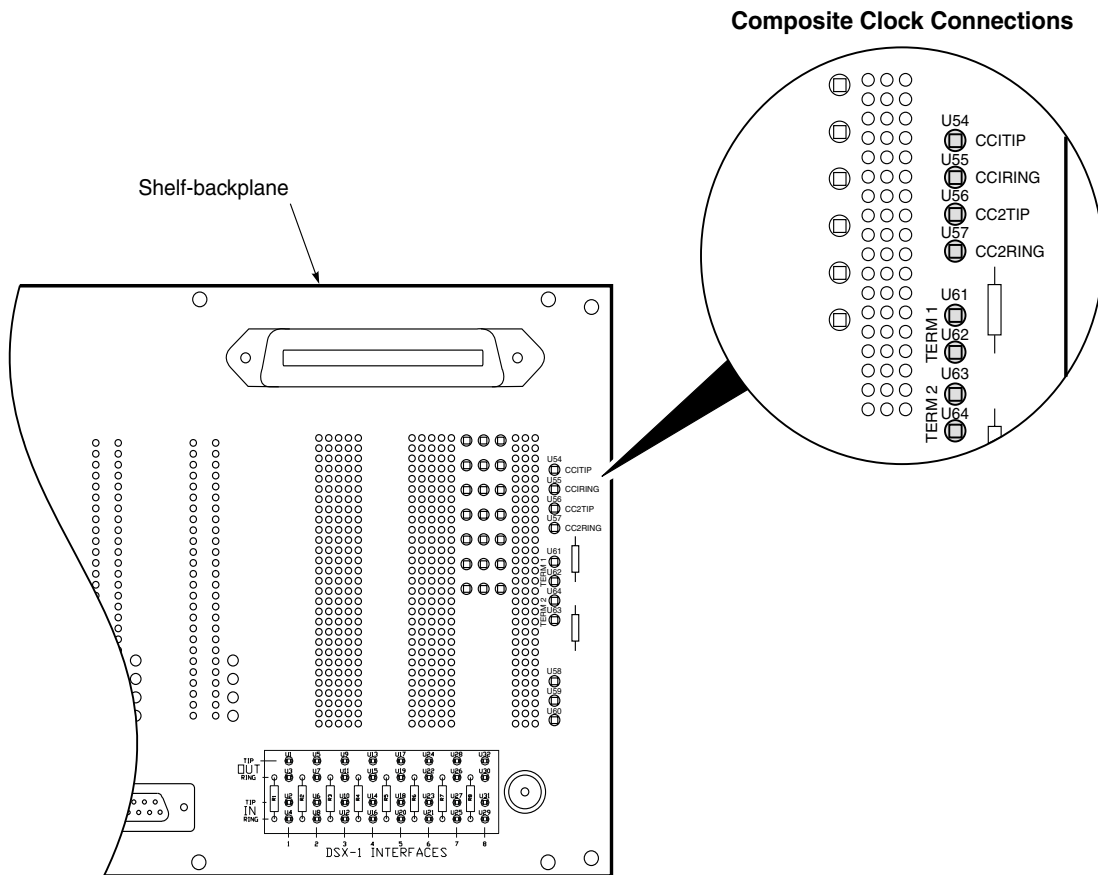

Figure 11. Connecting the Composite Clock
- 3 From the COT shelf at the end of the daisy-chain, connect CC1TIP to one terminal of TERM 1, and CC1RING to the other terminal on TERM 1 (Figure 11, “Connecting the Composite Clock,” on page 37).
- 4 From the COT shelf at the end of the daisy-chain, connect CC2TIP to one terminal of TERM 2, and CC2RING to the other terminal on TERM 2 (Figure 11, “Connecting the Composite Clock,” on page 37) if a second composite clock source is to be used.